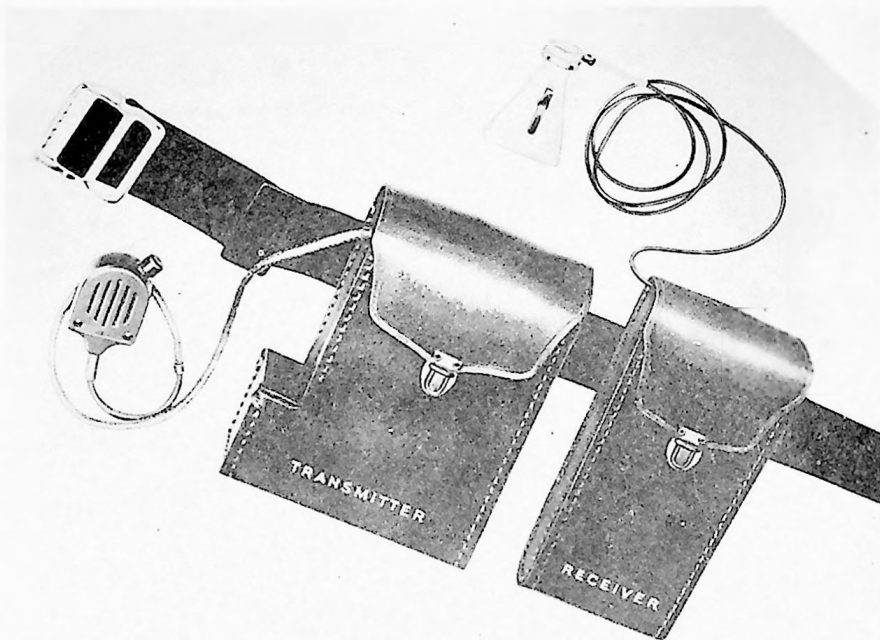

Figure 8. Belt-pack transmitter-receiver.
a. A recent development in commercial communication equipment is a combination portable vhf transmitter and receiver. The transmitter usually has seven subminiature vacuum tubes; the receiver is fully transistorized. Both units may be carried by clipping them to a belt, as shown in figure 8. There are two models, one for voice operation with a
133. A two-stage transistor multivibrator circuit is used in the belt-pack transmitter-receiver (fig. 8 of the Attached Memorandum) for the purpose of providing